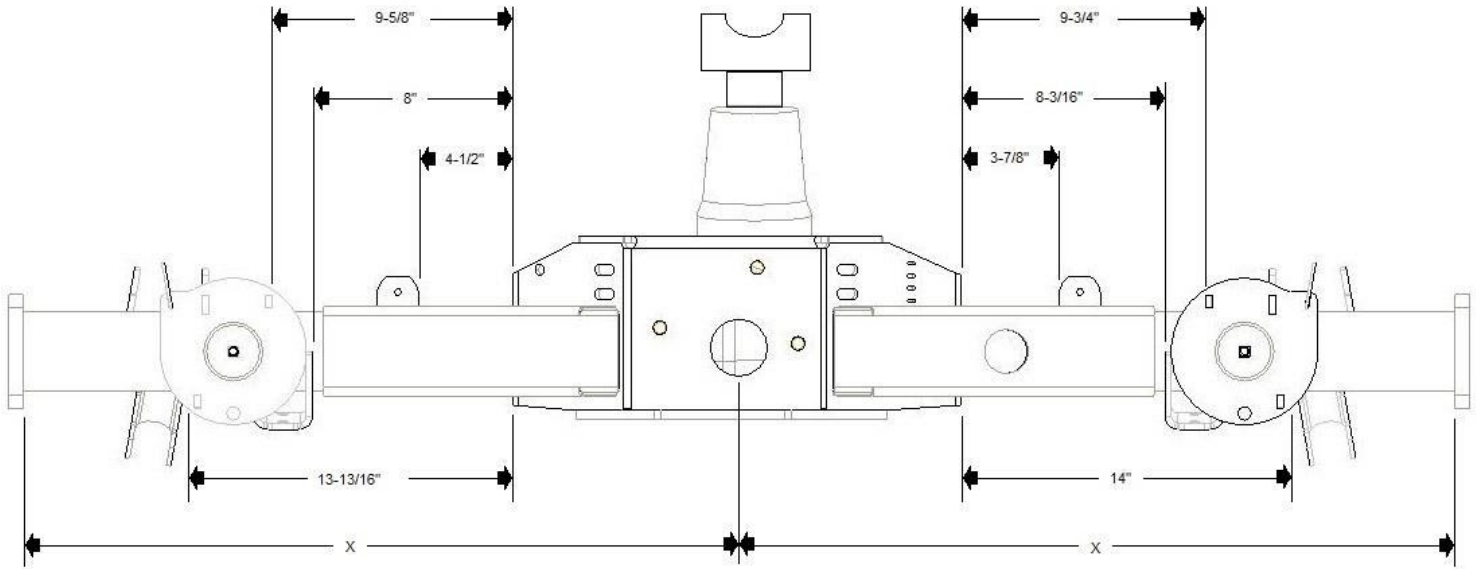

Fig.8
*****Refer to Figure 8 for set-up measurements*****
34. If you purchased the E-brake option, position E-brake cable retainer, tack weld in place (Figure 8).